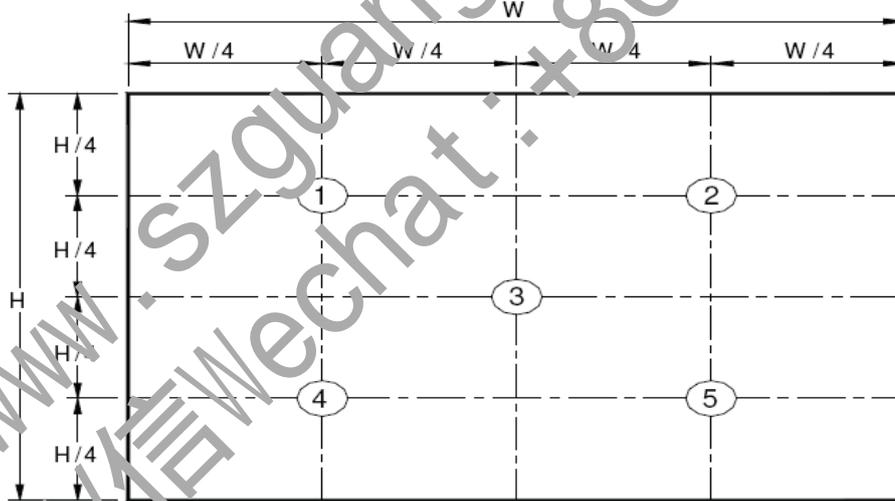
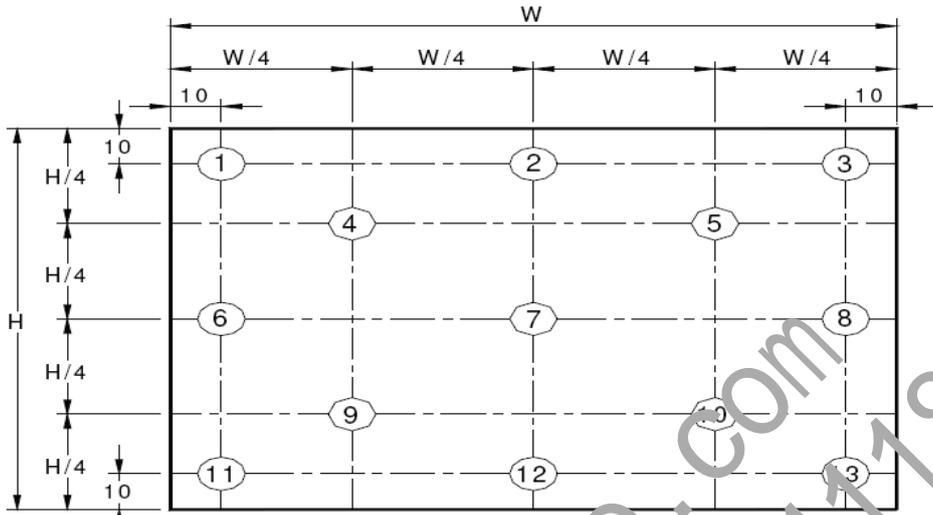

Figure 8. White Luminance and Uniformity Measurement Locations (5 points)
Figure 9. Uniformity Measurement Locations (13 points)
- Center Luminance of white is defined as luminance values of 5 point average across the LCD surface. Luminance shall be measured with all pixels in the view field set first to white. This measurement shall be taken at the locations shown in Figure 8 for a total of the measurements per display.
- The White luminance uniformity on LCD surface is then expressed as :  $\Delta Y = \text{Minimum Luminance of 5(or 13) points} / \text{Maximum Luminance of 5(or 13) points.}$ (see Figure 8 and Figure 9).
The White luminance uniformity on LCD surface is then expressed as:  $\Delta Y_5$  = Minimum Luminance of five points / Maximum Luminance of five points (see Figure 8),  $\Delta Y_{13}$  = Minimum Luminance of 13 points / Maximum Luminance of 13 points (see Figure 9).